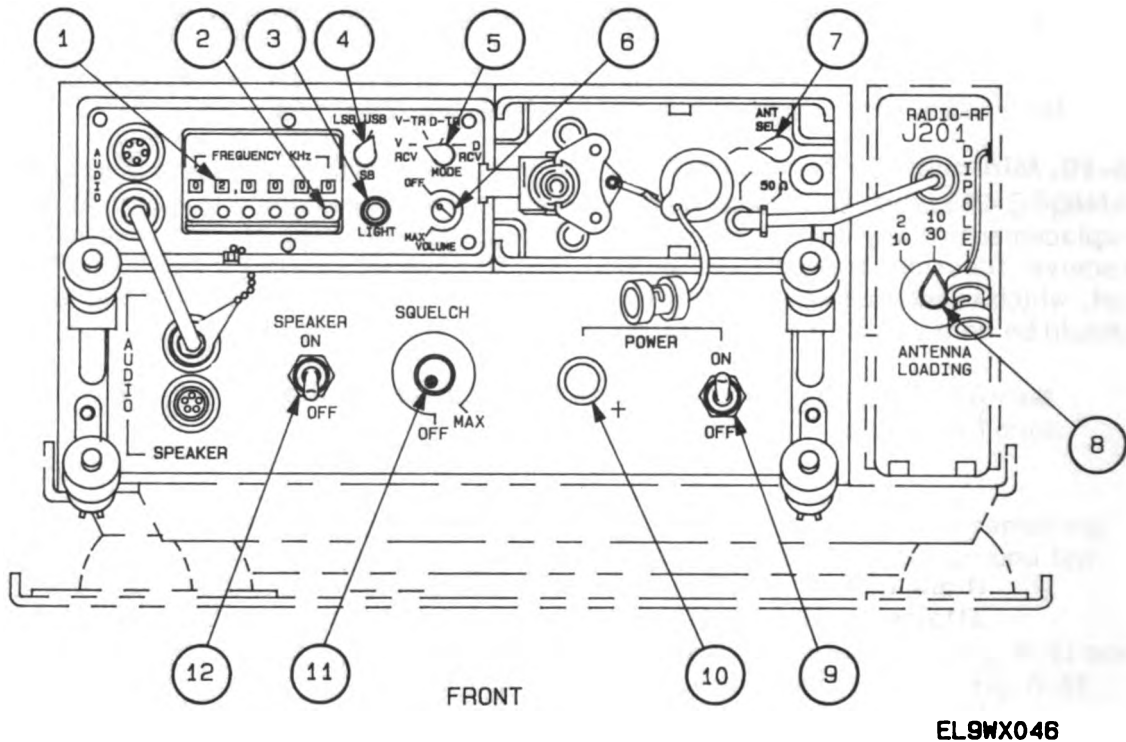

Figure 6-6. Controls and Indicators for Minimum Performance Test
- (1) Verify that the installation kit has been properly installed as outlined in the Installation Instructions paragraph of TM 11-2300-476-14&P. Also verify that there is no evident damage that would affect operation. If the installation kit is improperly installed or damage is evident, notify organizational maintenance.
- (2) Verify that AN/GRC-213 has been properly mounted on the installation kit per paragraph 2-2 of this manual. Also verify that appropriate connections have been made per paragraph 2-3 of this manual. Complete any necessary mounting or connections as outlined.
- (3) Set the AN/GRC-213 controls as outlined in the following subparagraphs.
- 1 Set FREQUENCY KHz switches (2, fig. 6-6) to the operating frequency of another similar unit. Frequency should be displayed in indicator windows (1, fig. 6-6).
- 2 Set MODE selector switch (5, fig. 6-6) to V RCV.
- 3 Set SB selector switch (4, fig. 6-6) to USB. Verify other similar unit is also set to USB; set switch if necessary.
- 4 Set VOLUME OFF/MAX switch control (6, fig. 6-6) to OFF.
- (b) Amplifier/Coupler. Set the amplifier/coupler ANT SEL switch (7, fig. 6-6) to the center position (BNC connector).
- 1 Set SPEAKER switch (12, fig. 6-6) to OFF.
- 2 Set SQUELCH control (11, fig. 6-6) to OFF (fully counterclockwise).
- 3 Set POWER circuit breaker (9, fig. 6-6) to ON.
(d) Switching Unit. Set the ANTENNA LOADING switch (8, fig. 6-6) on the switching unit (part of installation kit) as follows:
- 1 If the whip antenna is being used, set ANTENNA LOADING switch (8, fig. 6-6) to appropriate position, 2/10 or 10/30 (2 to 10 MHz or 10 to 30 MHz), for the operating frequency chosen.
- 2 If dipole or NVIS antenna is being used, set ANTENNA LOADING switch (8, fig. 6-6) to DIPOLE, regardless of operating frequency.
(4) Turn VOLUME OFF/MAX switch control (6, fig. 6-6) on the receiver/exciter to midrange.
(5) Verify the following conditions are present:
- (b) Light is visible in frequency indicator windows (1, fig. 6-6) when LIGHT switch (3, fig. 6-6) on receiver/exciter is pressed.
- (c) The POWER switchlight (10, fig. 6-6) on amplifier-power supply is on.
- (6) Adjust the VOLUME OFF/MAX switch control (6, fig. 6-6) on receiver/exciter to a comfortable listening level.
- (7) Set SPEAKER switch (12, fig. 6-6) on amplifier-power supply to ON and verify the transmission signal from the similar unit can be heard on the loudspeaker.
- (8) Adjust SQUELCH control (11, fig. 6-6) on amplifier-power supply until transmission signal from similar unit just breaks squelch or is just heard in the loudspeaker.
- (9) Set SB selector switch (4, fig. 6-6) on receiver/exciter to LSB and monitor the signal for clarity. Then, set SB selector switch back to USB position.
- (1) Adjust AN/GRC-213 controls as outlined in the following subparagraphs.
- 1 Set MODE selector switch (5, fig. 6-6) to V-TR position.
- 2 Change the frequency (1 and 2, fig. 6-6) to an authorized operational frequency to establish contact with the Net Control Station or other operators.
- (b) Switching Unit. Set the ANTENNA LOADING switch (8, fig. 6-6) on the switching unit (part of installation kit) control as follows:
- (2) Press and release the push-to-talk (PTT) switch on the handset and verify the following:
- (1) Establish two-way communication with another radio set and check the quality of received and transmitted signals.
- (2) If the AN/GRC-213 is not to be used further, perform the following:
- (a) Set FREQUENCY KHz switches (2, fig. 6-6) to 05000.00 KHz.